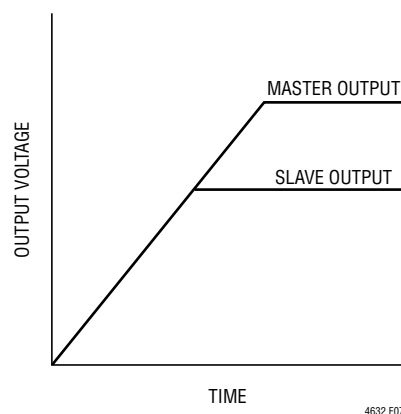

Figure 7. Output Coincident Tracking Waveform
The Coincident output tracking can be recognized as a special Ratiometric output tracking which the master's output slew rate (MR) is the same as the slave's output slew rate (SR), as waveform shown in Figure 7.